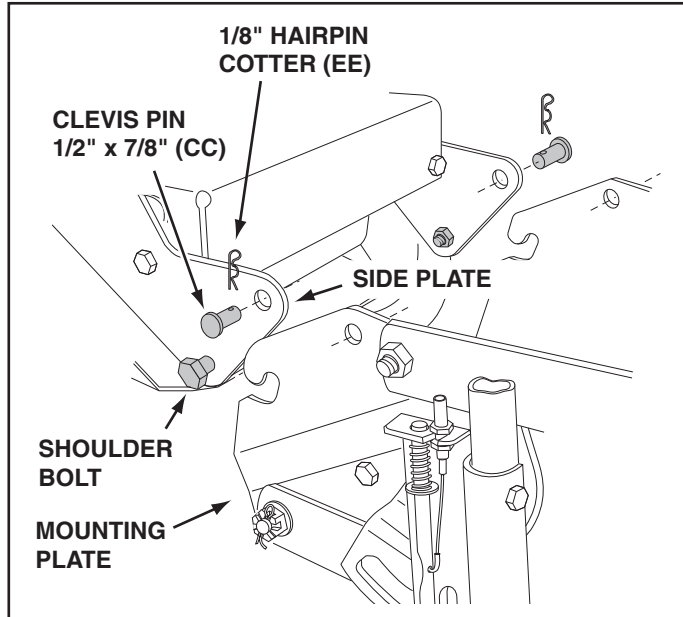

FIGURE 54
STEP 55: (SEE FIGURE 54)
- Delay installing the clevis pins (CC) until you have assembled the belt as instructed in steps 56 and 57.
STEP 58: (REFER BACK TO FIGURE 54 ON PAGE 23)
- Lift the front of the snow blower to align the holes in the mounting plates and the side plates. Insert two 1/2" x 7/8" clevis pins (CC) through the holes and secure them with the 1/8" hairpin cotters (EE).